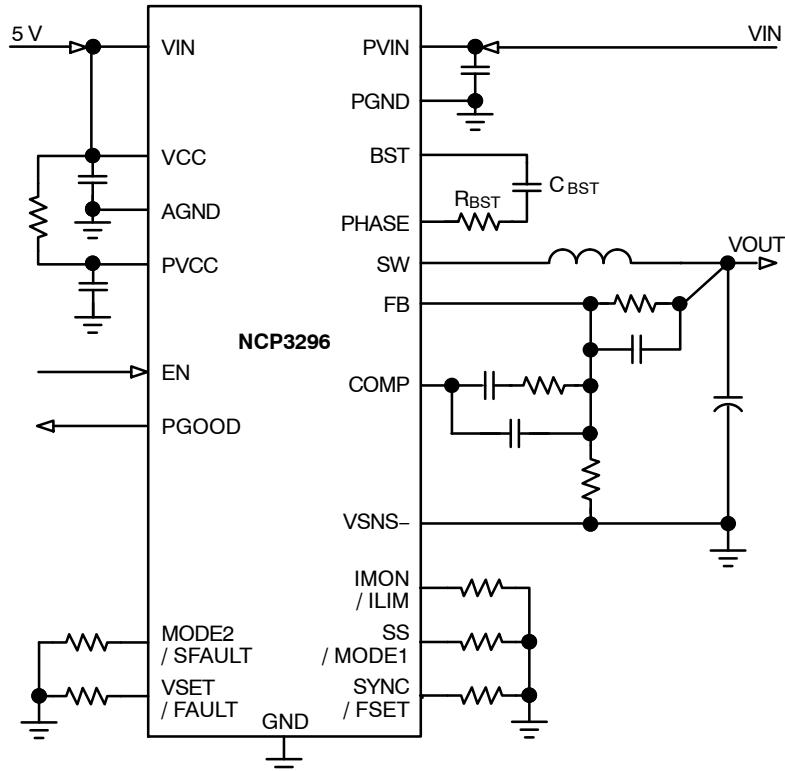

Figure 2. Typical 12 V_{IN} , 40 A Application Circuit with External 5 V VCC Supply (LDO Disabled)
5. Operation at $<4.5V_{IN}$ requires external 5 V supply be applied to the VIN and VCC pins per Figure 2.